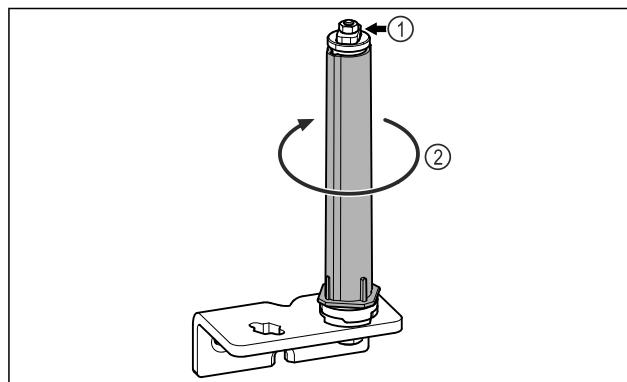

Fig. 13
- Do not disassemble the door locking system Fig. 13 (1).
- Turn the locking system Fig. 13 (2) until it clicks.